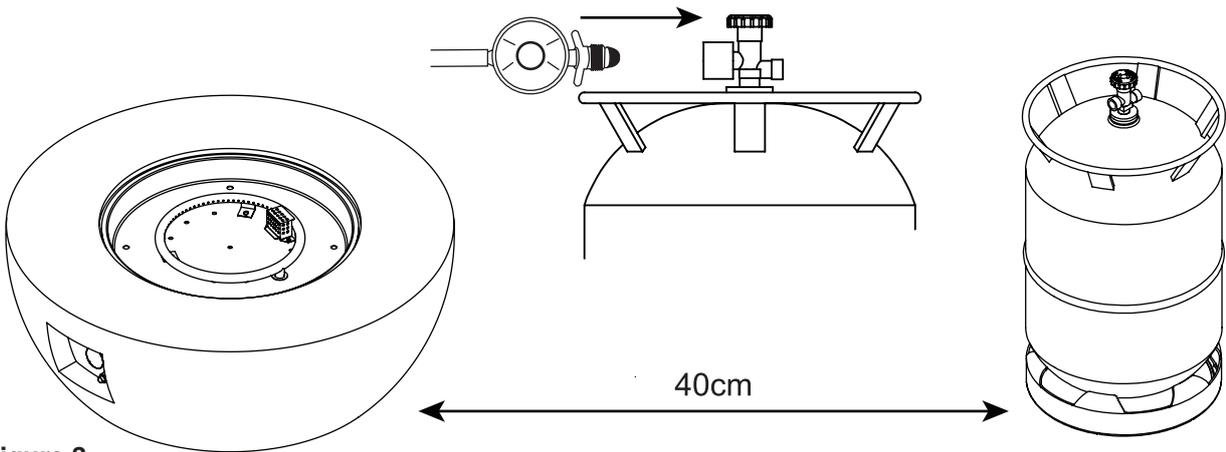

Figure 3
4. Attach the regulator to the tank valve and tighten. (see Figure 3)